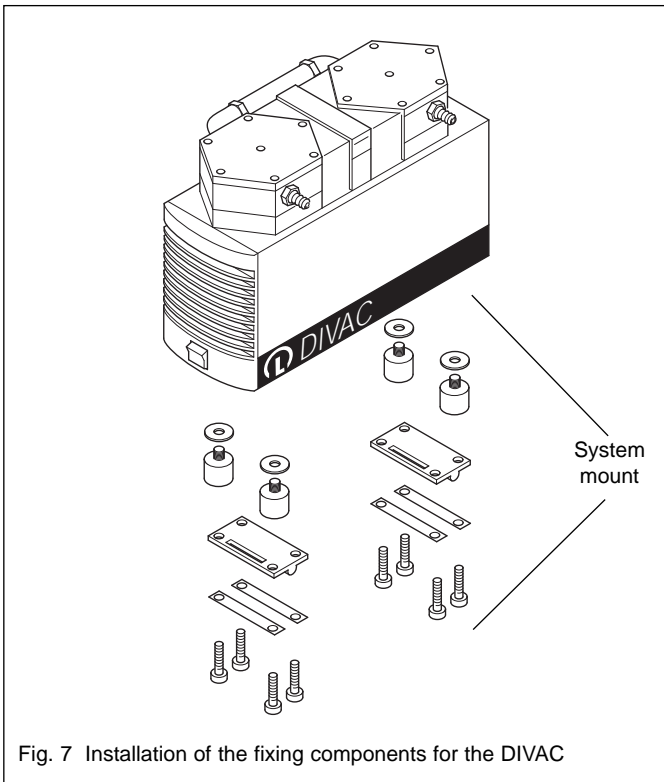

Fig. 7 Installation of the fixing components for the DIVAC
- Make sure that the vacuum pump is securely attached to the baseplate (for installation information see Section 3.2, Fig. 7 and subsequent figures). The two ball pins (8/2) under the pump must be firmly engaged.
In the case of the DIVAC system modules (SR/SH/SC/SCC) this system mount has already been attached in the factory. When ordering baseplates separately (see Section 5.3 – Accessories for the modular DIVAC system), the system mounts are included. They are installed according to Fig. 7.
- Attach the system mount to the pump according to Fig. 7.
- For installing the DIVAC pump, see Section 3.2, Fig. 7.